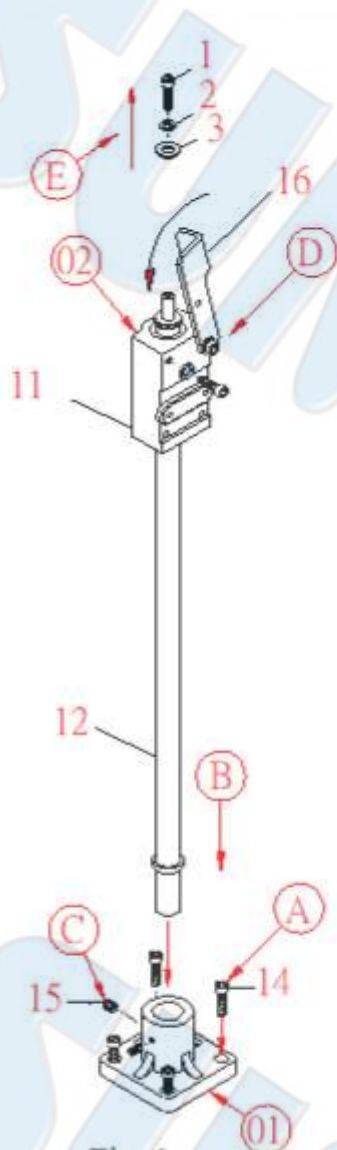
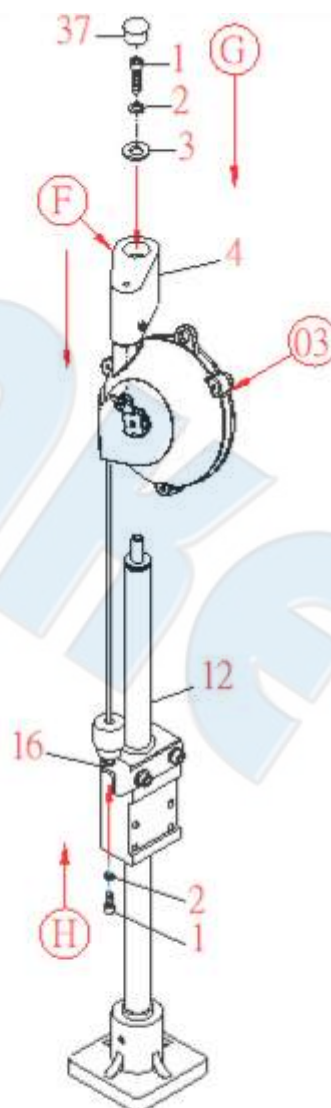

Fig. 1
Fig. 2
- A. Take 4pcs M6\*25(#14) screws from (05) screw pack to tighten the base (01) on a stable work. see **【Fig.1】** .
- B. Insert the spindle lower end of (02)Linear bearing set into the base (01) until the bottom end is in contact with the table.
- F. Insert the hanger (#4) of hanger set (03) carefully from the upper end of the spindle (#12) to the fixed point. (please note: the base plate of spring balancer shell should face the spindle direction) see **【Fig.2】**
- H. disassemble the screw (#1) and spring washer (#2) of hanger set (03) and pass-through Linear bearing set (02).